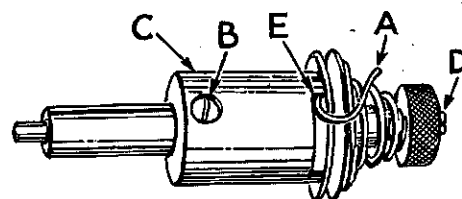
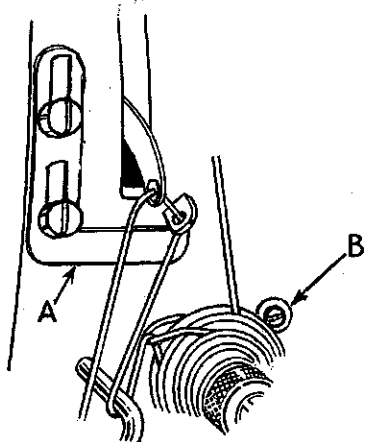
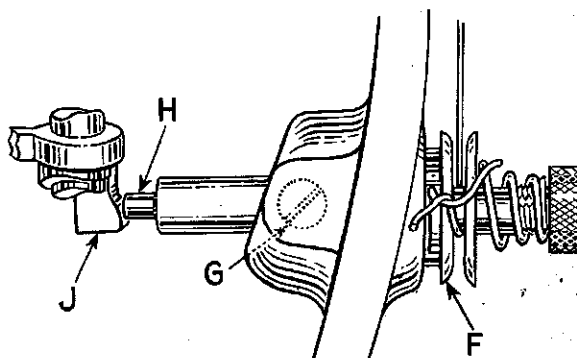

Fig. 11
Fig. 12
Fig. 13
Test check spring tension (A, Fig. 11). There should be enough tension to insure a good returning snap when spring is depressed and released. Should it require adjusting, loosen set screw in the head on right side of tension post (G, Fig. 13) and remove tension post assembly. Partially loosen tension post set screw (B, Fig. 11) in tension post socket (C). Holding the socket in the left hand, turn the tension post (D) counterclockwise with the right hand until the check spring moves away from the upper stop (E) and has no tension on it. Turn the tension post (D) in a clockwise direction until the spring again touches the upper stop (E). Then, proceed further in the same direction until the desired tension is obtained. When correctly set, the tension post set screw (B) should be drawn up snugly, but not forcefully.
The frame take-up eyelet (A, Fig. 12) should be set at its highest position.
The tension assembly should be located in bed from front to back, so that, when the presser foot is raised to its highest position, the tension (F, Fig. 13) is opened just enough to allow the thread to pass the discs freely.
To position the tension assembly, see that set screw in bed (G, Fig. 13) is loose and tension assembly adjusting screw (B, Fig. 12) is screwed down to the bed.
Lift the presser foot hand lifter to its highest position. With the left hand, grasp the thread and pull it through the tensions; with the right hand, push tension post deeper into the machine until release pin (H, Fig. 13), pressing against the presser bar connection (J), has opened the tension discs just enough to allow the thread to pull through freely. Retighten set screw (G), turn tension assembly adjusting screw (B, Fig. 12) counterclockwise until it contacts the flange of the tension post socket.